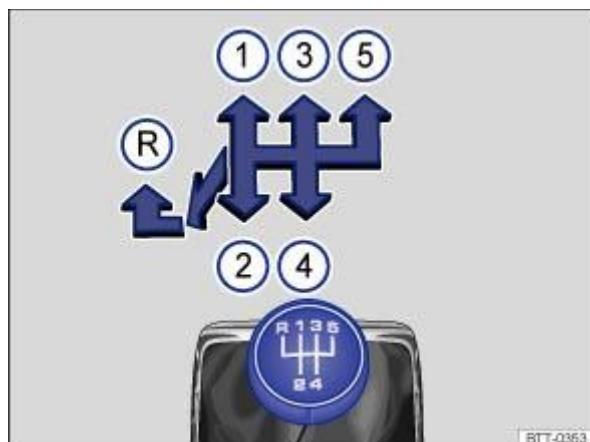
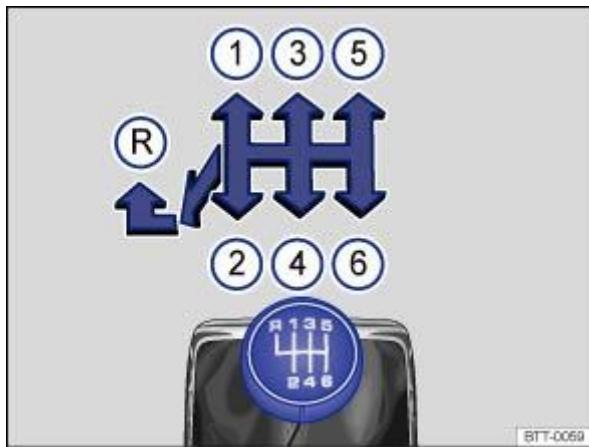

Fig. 103 Gear shift pattern of a 5-speed manual gearbox.
Fig. 104 Gear shift pattern of a 6-speed manual gearbox.
The positions of the individual driving gears are shown on the gearshift lever ⇒ Fig. 103 or ⇒ Fig. 104 .
Push the gear lever fully to the left and then to the front into the reverse gear position ⇒ Fig. 103(R) or ⇒ Fig. 104(R) .